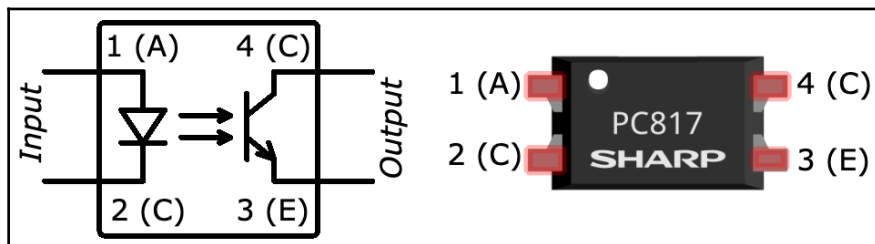

Figure 7.6 – Optocoupler symbol and component with pins labeled
Inside an optocoupler on the *input* side is an internal LED (you will notice the LED symbol within the optocoupler symbol in *Figure 7.6*) while on the *output* side there is a phototransistor that responds to the LED's light. What this means is that the transfer of control (that is, switching) from the *input* side to the *outside* side is performed by light, hence, there is no physical electrical connection between the two sides. For us, this means that any failures or accidents on the output side should not cause damage to our Raspberry Pi. The PC817 has its isolation rated as 5000 volts, which are well beyond any voltages we would expect to be used with IoT electronics and devices.
3. Place the PC817 Optocoupler IC into your breadboard. The white dot on the IC indicates pin number 1 of the IC. Your IC may have or not have the white dot, however, there should be a distinct marking on the IC to tell you the first pin. Please refer back to *Figure 7.6* for all pin numberings.